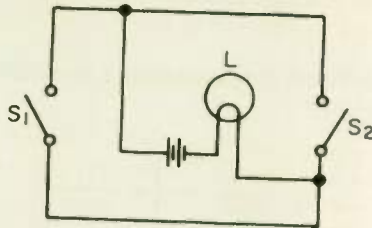

Fig. 34
1. Which of the following describes the operation of the circuit of Fig. 34?